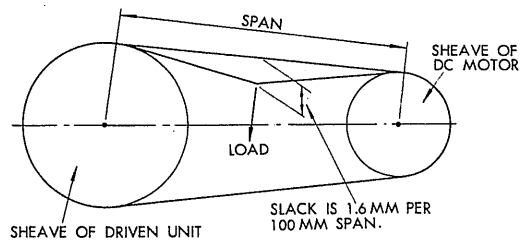

Fig. 6 Belt Span and Center Distance of Two Sheaves
1. Determine the belt span on the slack side of the drive. The span is the length of the belt between the points at which the belt leaves the sheaves, and not the center distance of two shafts. If two sheaves are the same in diameter, the span is equal to the shaft center distance. See Fig. 6.